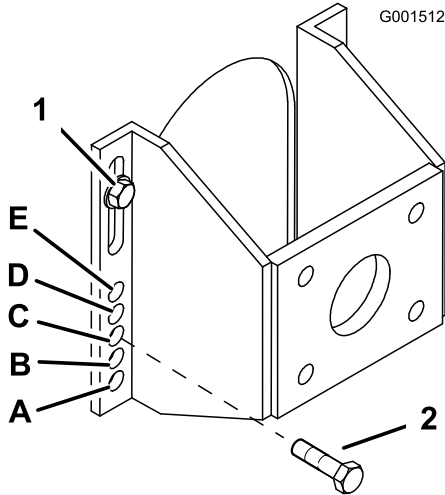

Figure 19
- Loosen, but do not remove, the 2 top axle bolts (Figure 19).
- Remove the 2 lower axle bolts (Figure 19).
- Raise or lower the mounting bracket, so that you can install the 2 axle adjustment bolts in the desired hole location (Figure 19). A tapered punch can be used to help align the holes.